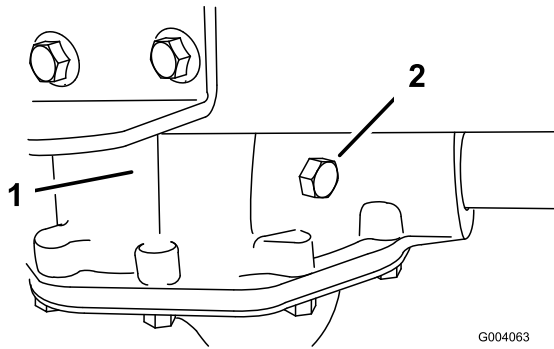

Figure 44
2. Remove the check bolt on the transaxle (Figure 44).